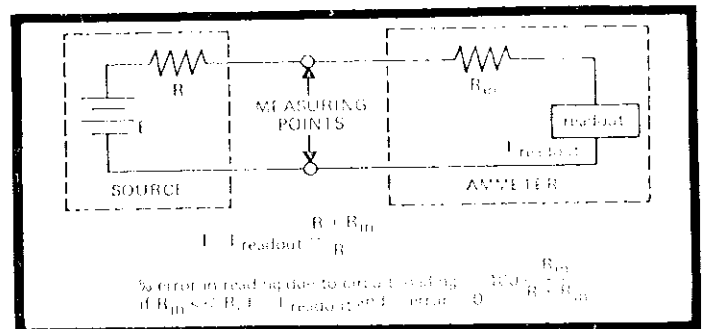

FIGURE 4. Ammeter Loading Effects.
c. The current accuracy is specified as $\pm 0.2\%$ of reading, ± 1 digit on all ranges. Since the accuracy is specified at the input terminals, the loading effects as shown in Figure 4 should be considered. Refer also to Table 2-1 for resistance and sensitivity on each range.